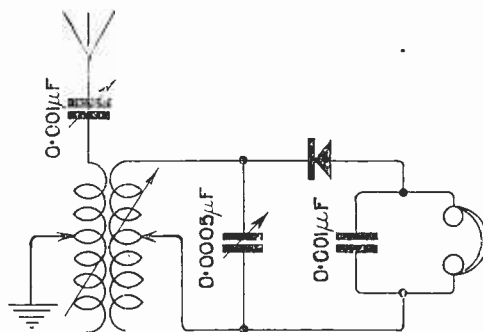

Fig. 5.
(1) We suggest you build a set yourself and wire the components as indicated in Fig. 5. The aerial tuning inductance may consist of a winding of No. 22 D.C.C. on a former 4" in diameter and 6" long. The secondary tuning inductance may consist of a winding 3" in diameter and 8" long of No. 30 D.C.C. (2) It is useless to expect signals when the crystal set is connected with a frame aerial. We suggest you build an open aerial as advised in No. 4. (3) We suggest you do not build a Reinartz tuner, but a standard valve receiver. Particulars of many have appeared recently in these columns. (4) We suggest you secure a pole to the house and then erect a 35 ft. pole in the garden as suggested. The higher the aerial the better it will be for your purpose.